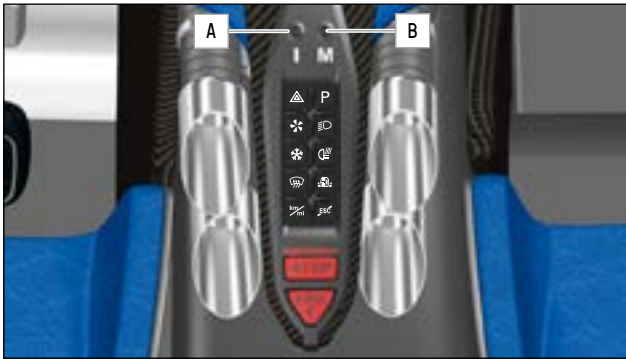

FIG.72 MASTER AND IGNITION SWITCH ON THE CENTRE CONSOLE
- Push the Ignition Switch **A** (» Fig.72) down to the OFF position.